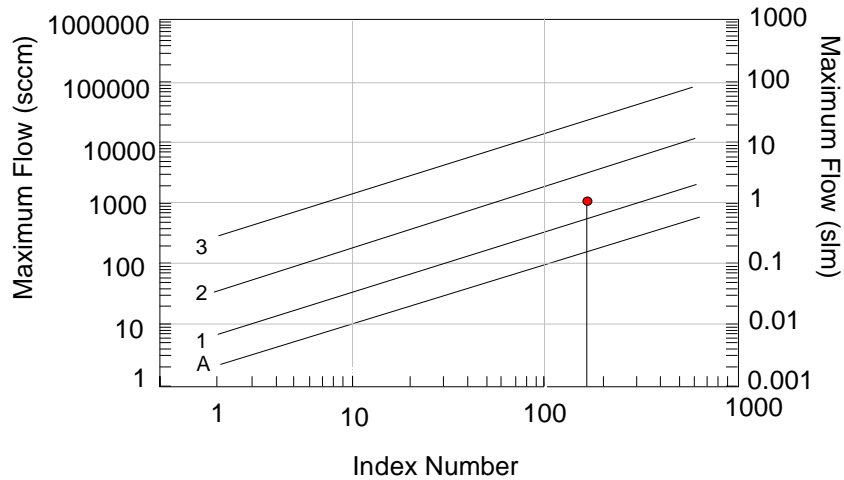

Figure 24: Flow Range Selection
The valves are not calibrated to match the valve orifice selection graph in Figure 24, page 59. The graph displays *typical* valve behavior.
- Use the index number and your maximum flow rate, to determine the orifice size from Figure 24.
3. Use the index number and the maximum flow rate to determine the orifice number from Figure 24, page 59.